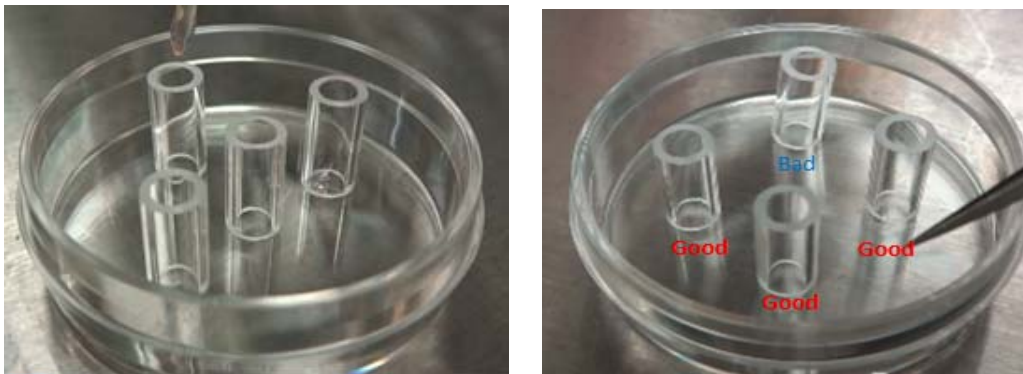

Figure 1. Cloning ring placed in a petri dish (left). Shake it and select only cloning rings that do NOT move (right).
1. Autoclave cloning ring and place them in a petri dish (Figure 1, Left).
2. Shake the petri dish. Select only cloning rings that do NOT move (Figure 1, Right).